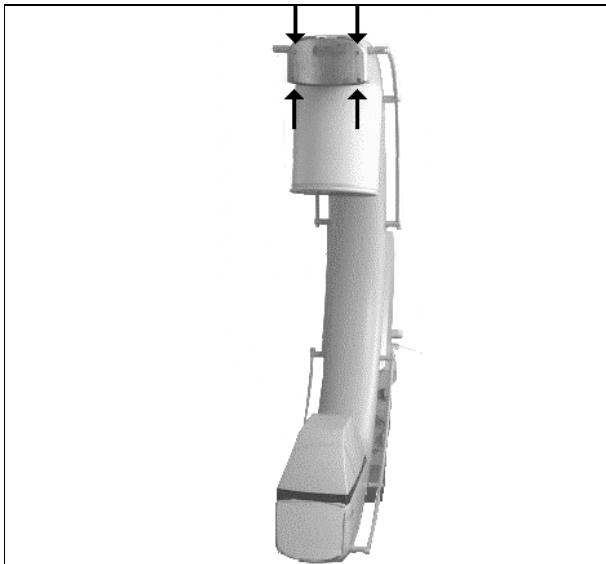

Fig. 8
- Remove the 4 fastening screws (Fig. 8). Hold the covers firmly while removing them.